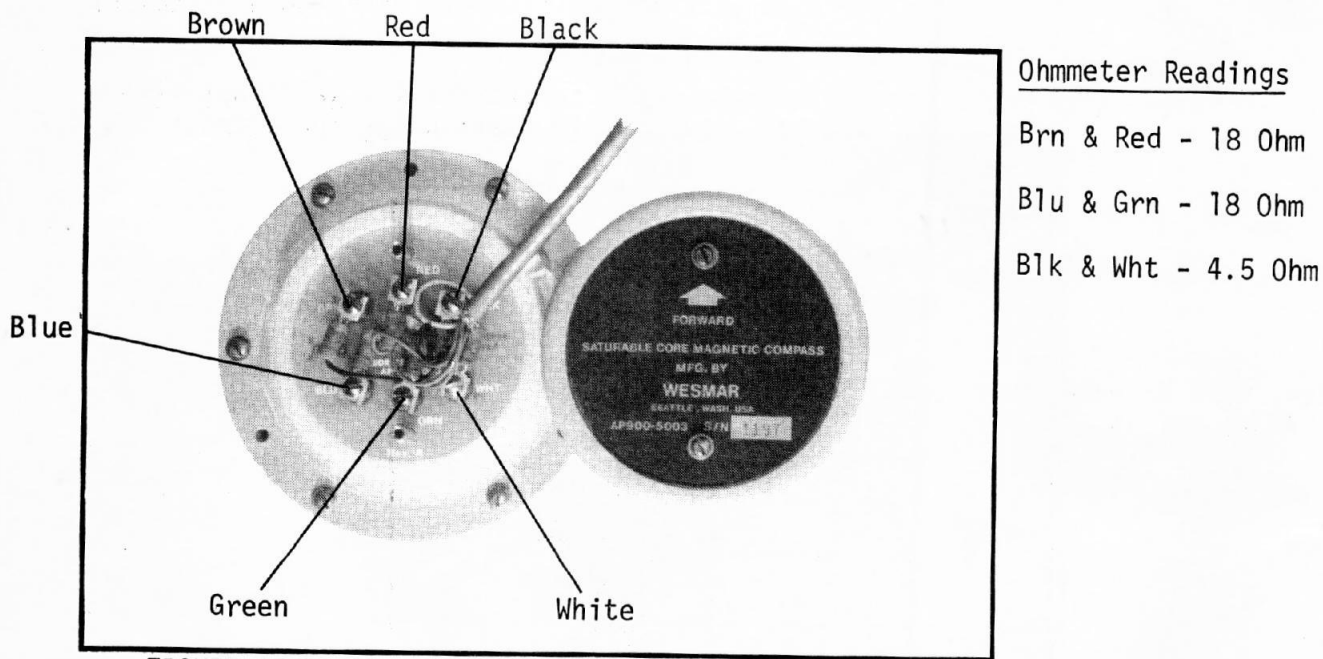

FIGURE 20. TOP OF SENSOR REMOVED, SHOWING WIRING
4. Remove the top of the Sensor and connect the 6 wires in the cable to the Sensor as shown in Figure 20. FOLLOW GENERAL WIRING INSTRUCTIONS, page 16.